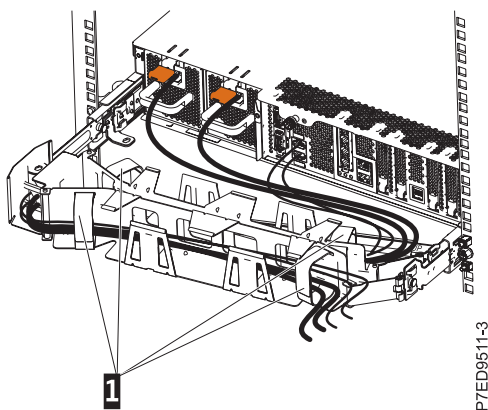

Figure 18. Attaching and routing the power cord
8. Route the power cords and other cables (including keyboard, monitor, and mouse cables, if required) on the cable-management arm (1), as shown in Figure 18. Attach all cables to the rear of the server except for the power cord. Secure the cord and cables with cable ties or hook-and-loop fasteners.